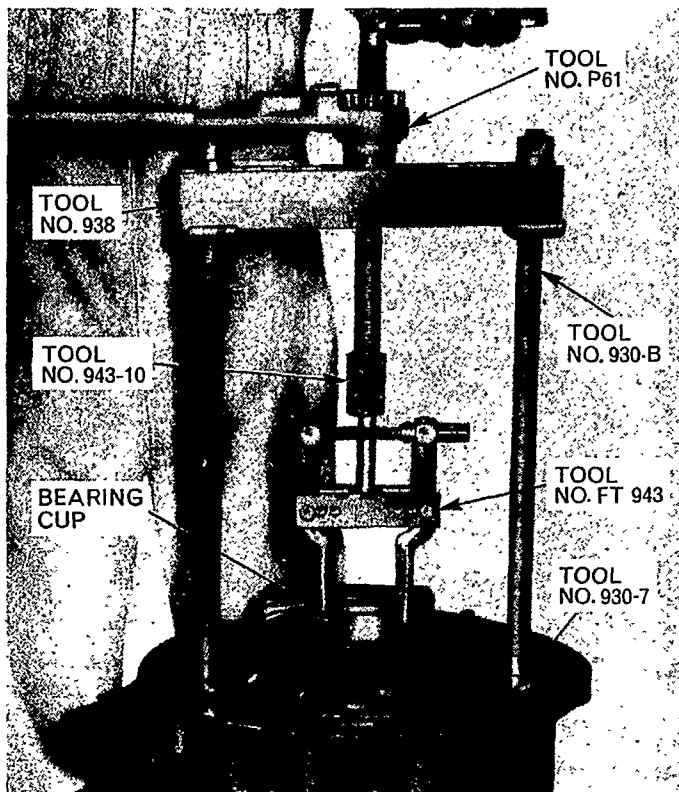

Figure 61
5. If it is necessary to install a new bearing cup in the inner disc brake housing use Tool Nos. P.61, 930-B1, FT-943, 943-10, 938, 930-7, to remove the cup, Figure 61. It should be noted that a shim is positioned behind this cup.